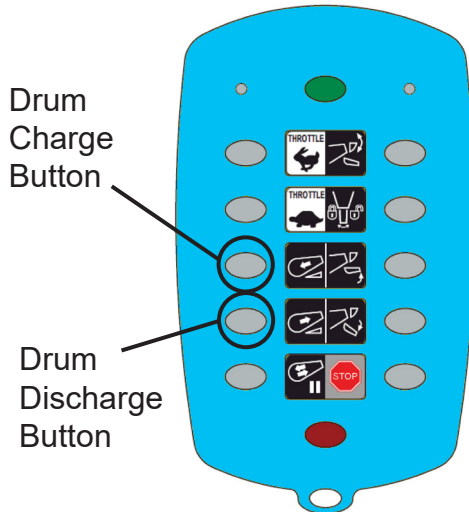

Figure 39
3. Press the appropriate button, either Charge or Discharge (Figure 39), on the OMNEX Wireless Transmitter.